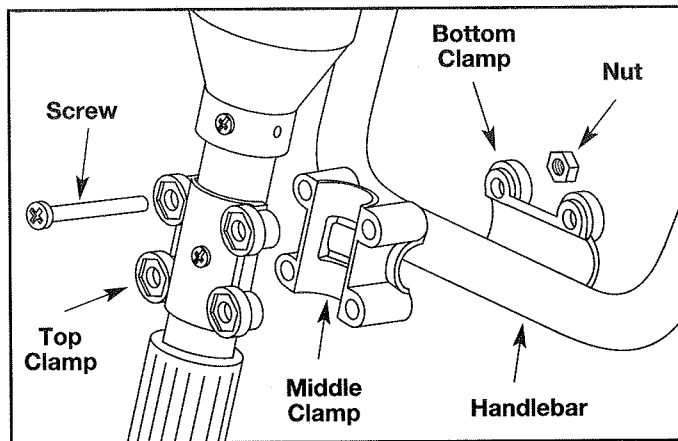
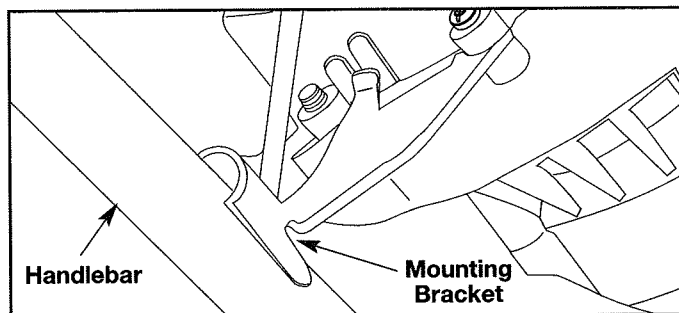

Fig. 4
Fig. 5
1. Place the handlebar between the bottom and middle clamp pieces (Fig. 4).
3. One at a time, hold a hex nut in the bottom clamp recess with a finger and install a screw through the clamp assembly. Start screw with a large Phillips screwdriver. Do the same with the other three (3) nuts and screws. Do not tighten until you make the handle adjustment.
4. Position the two (2) handlebar clamps with one on each side near the top of the handlebar. Swing the handlebar up until it sets to the outside of the two mounting brackets on the engine (Fig. 5).